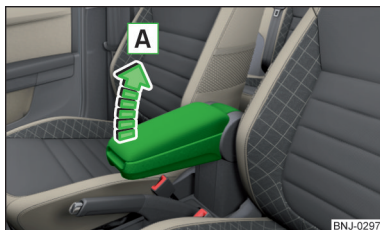

Fig. 69
- To **adjust the height**, lift the armrest in the direction of the arrow **A** into one of the locking positions » Fig. 69.